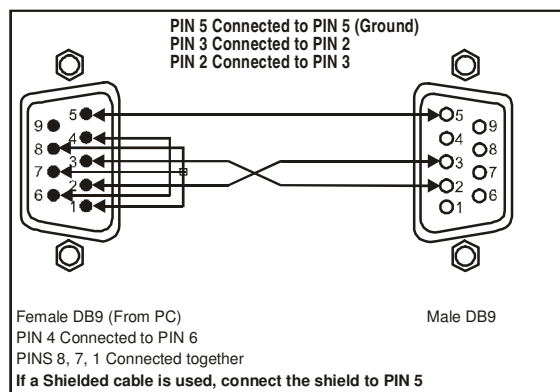

Figure 8: Connecting a PC Without Using a Null-Modem Adapter
- Connect the RS-232 9-pin D-type port on your PC to the RS-232 9-pin D-type rear panel port on the **VS-808xl**, as *Figure 8* illustrates